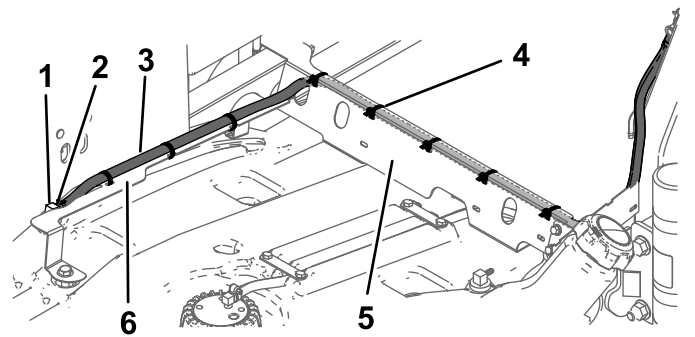

Figure 9
5. Connect the left hose (1/4 x 54-1/4 inches) to the front fitting using a hose clamp (1/2 inch) as shown in Figure 9.
6. Route the hose along the fuel-line bracket and along the rear of the heat shield (Figure 9).
8. Secure the hose to the brackets using 8 cable ties (3 on the fuel-line bracket and 5 on the heat shield) as shown in Figure 9.